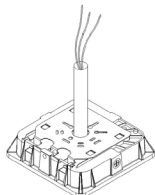

Fig. 1
2. If the incoming wires from the luminaire are longer than the pendant, make wiring connections in the junction box. If the wires are not longer than the pendant, pull wires from the junction box as required, and make wiring connections inside the pendant (Fig. 1).